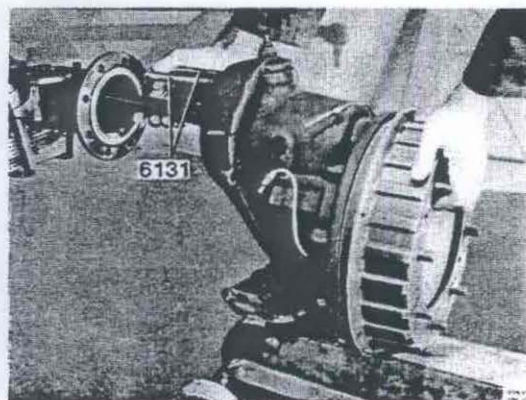

Fig. 46-77. Removing the wheel carrier
- Remove the upper bolts securing the wheel carrier housing to the front axle casing. Fit the guide pin 6131 in the upper holes, Fig. 46-77. Place a jack under the wheel carrier housing.